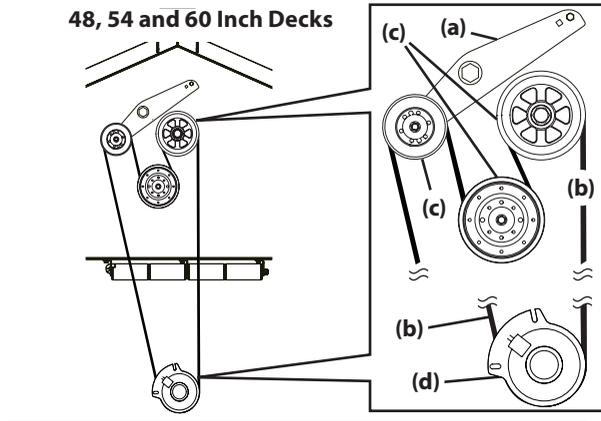

Figure 35
3. Using a 1/2" (12.7 mm) drive in the idler pulley bracket (a), turn the wrench towards the front of the mower and slide the PTO belt (b) off the deck pulleys (c) and the PTO clutch (d) (Figure 35).